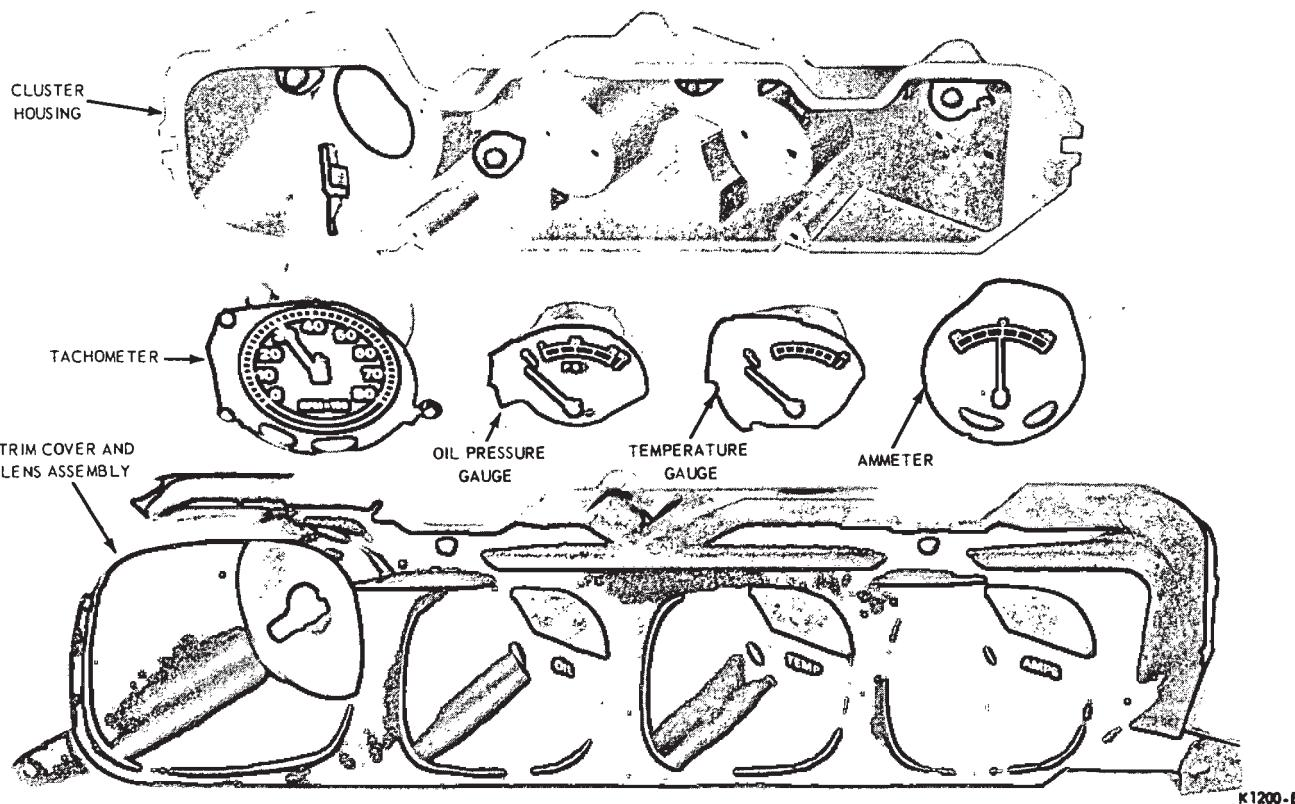

FIG. 20—Montego Auxiliary Instrument Cluster—Disassembled
3. From the front side of the cluster, remove the retaining nuts and separate the trim cover and lens assembly from the cluster housing (Fig. 20).
5. Install the instrument to the cluster housing from the front side so that the mounting studs enter the stud holes in the housing (Fig. 20).
6. Position the trim cover and lens assembly to the front of the cluster housing, and install the retaining screws (Fig. 20).